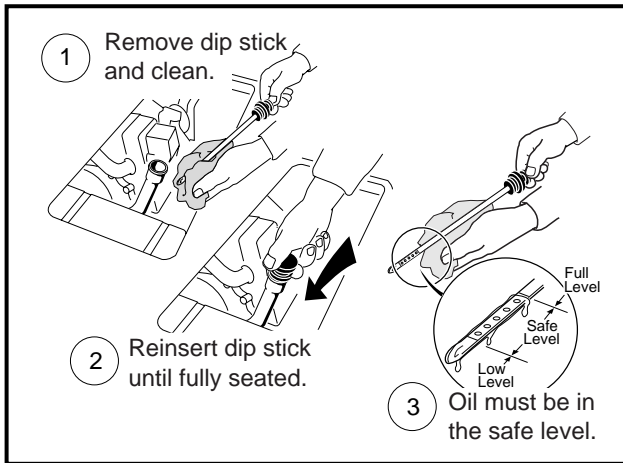

Figure 13-41 Check Engine Oil Level
8. Install governor cable clevis pin (9) through cable clevis and throttle valve, and install a new cotter pin (10).
9. Apply a light film of clean engine oil onto the seal of the new oil filter and install the filter. Tighten the filter 2/3 turn after gasket contact. Fill crankcase with the correct level of oil (**Figure 13-41, Page 13-22**). **See Section 2 – Vehicle Specifications.**